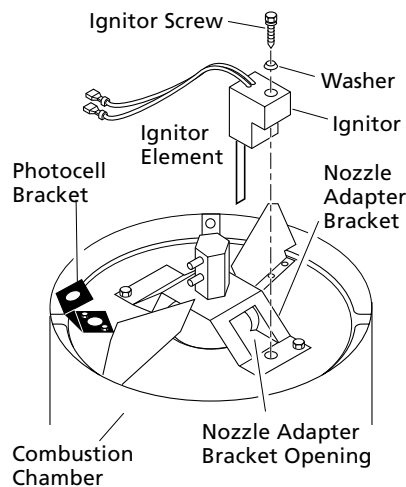

Figure 13 - Ignitor Replacement
6. Remove combustion chamber. Stand combustion chamber on end with nozzle adapter bracket on top (See Figure 13, page 8).
9. Carefully guide ignitor into opening in nozzle adapter bracket. Do not strike ignitor element. Attach ignitor to nozzle adapter bracket with screw using a 1/4" nut driver (See Figure 13, page 8). Torque 8 to 15 in. lbs. Do not over torque.